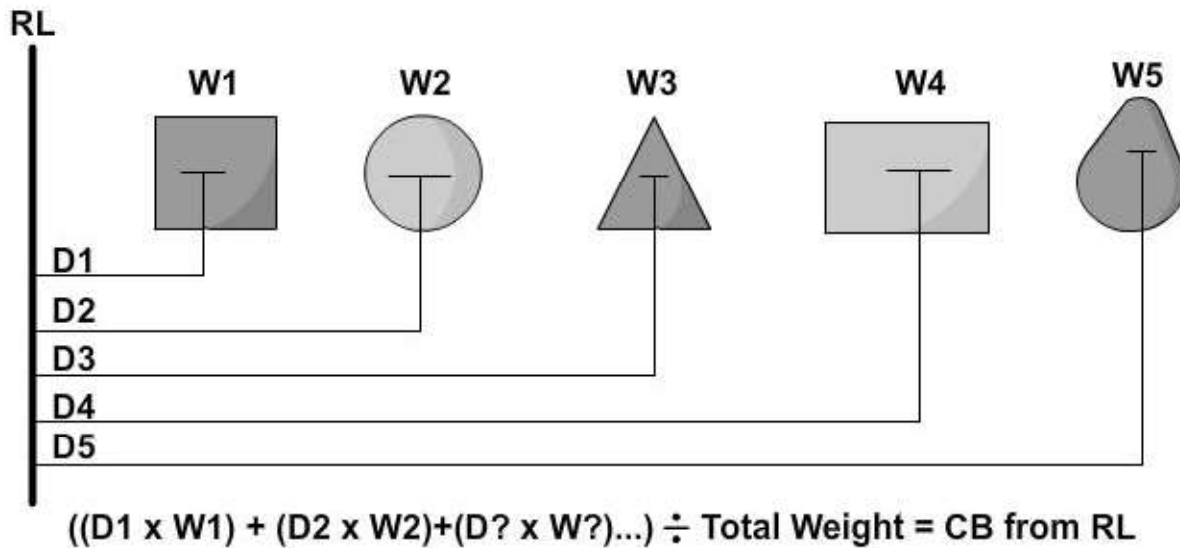

Figure 2-33 — Center of balance model (W3 through W5).
- Weight three, weight four, and weight five (W3, W4, and W5) are terms used to define subsequent weight after W1 and W2 (*Figure 2-33*).